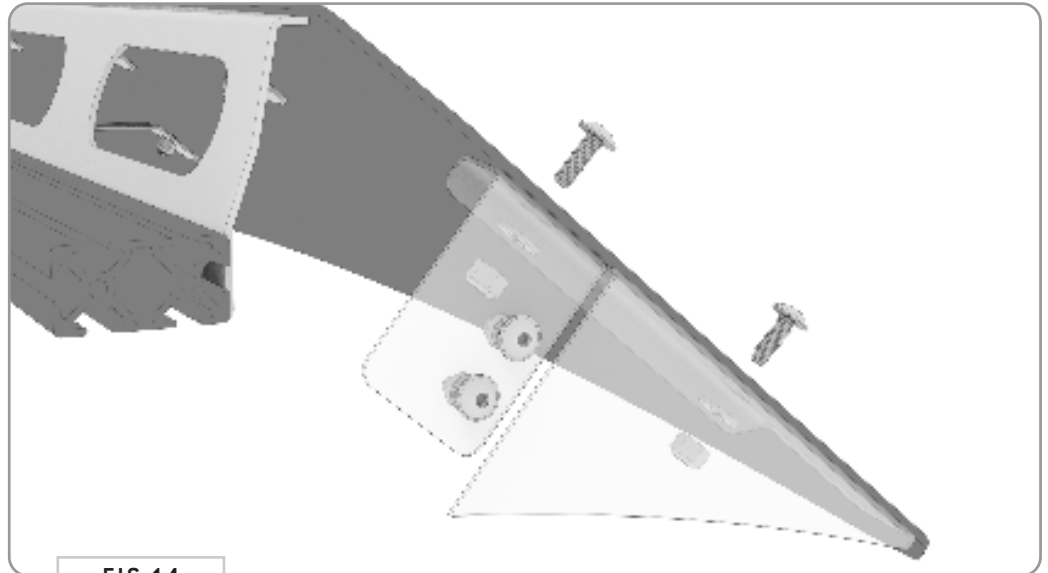

FIG 14
4.6 Driver and Passenger Side Fairing Brackets: Attach the **Driver and Passenger Side Fairing Brackets** to the Assembly using **1/4-20 x 0.75 Flanged Button Head Screws, Flat Washers and Nylon Locknuts (FIG 14)**.